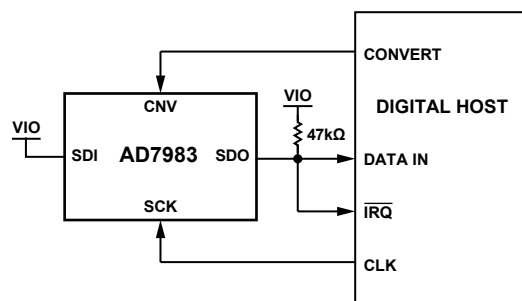
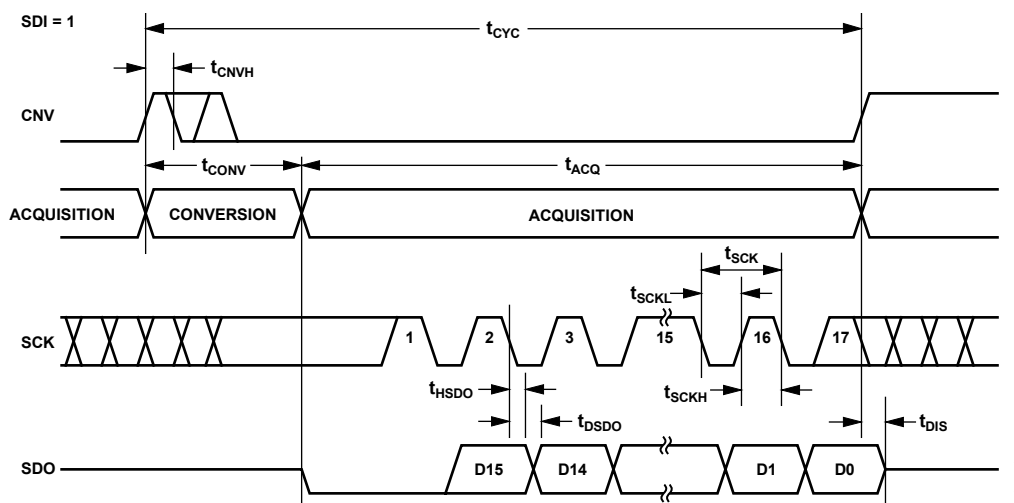
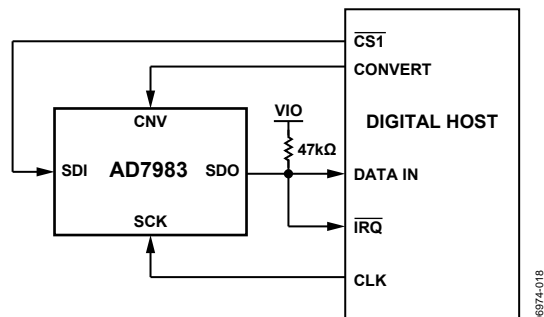
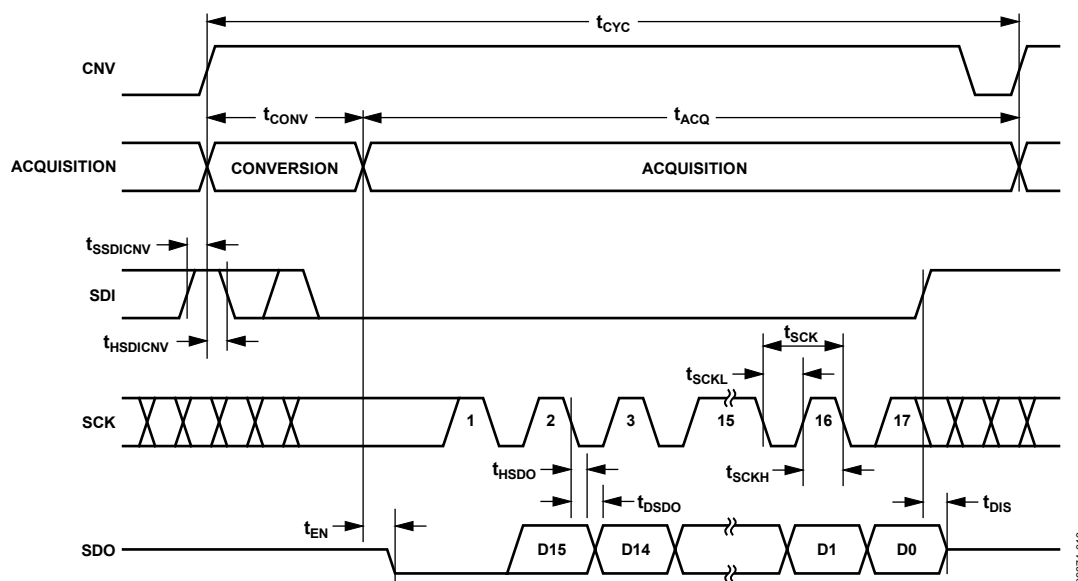

Figure 28.  $\overline{\text{CS}}$  Mode, 3-Wire with Busy Indicator Connection Diagram (SDI High)
Figure 29.  $\overline{\text{CS}}$  Mode, 3-Wire with Busy Indicator Serial Interface Timing (SDI High)
Figure 32.  $\overline{\text{CS}}$  Mode, 4-Wire with Busy Indicator Connection Diagram
Figure 33.  $\overline{\text{CS}}$  Mode, 4-Wire with Busy Indicator Serial Interface Timing
- In  $\overline{\text{CS}}$  mode if CNV or SDI is low when the ADC conversion ends (see Figure 29 and Figure 33).
The connection diagram is shown in Figure 28, and the corresponding timing is given in Figure 29.
The connection diagram is shown in Figure 32, and the corresponding timing is given in Figure 33.